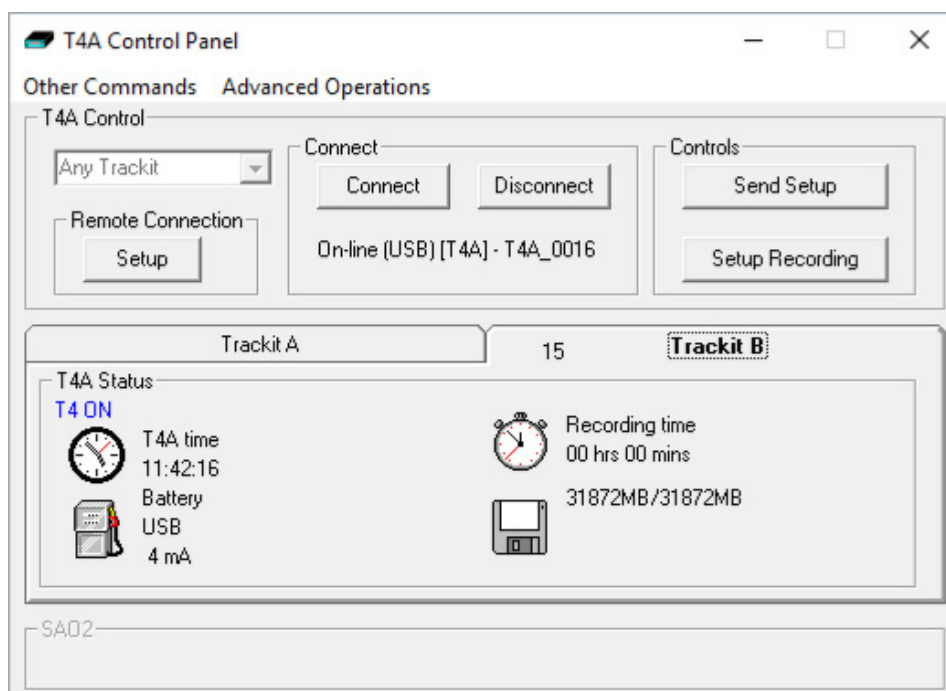

Figure 28: Trackit Control Panel "Status B"
Further status information is available on the second tab ("Trackit B"). This includes the amplifier's time, Battery capacity, Recording time and the memory card's total and remaining capacity in (Megabytes (MB)) (see Figure 28).